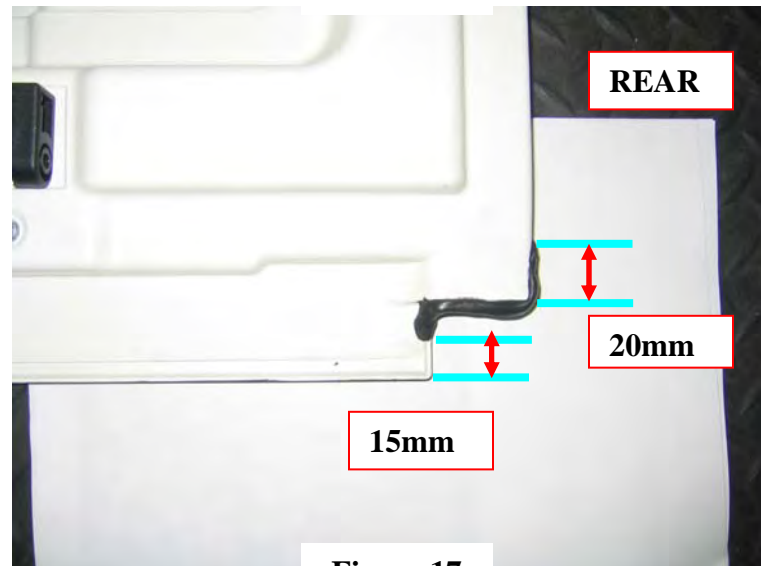

Figure 17
- Apply 4 mm diameter Butyl, Pt # 68027813AA, to Rear Notch (Figure 17)